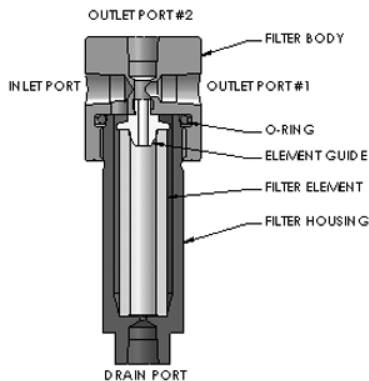

Figure 2
3. Orientation; The Type 30/30A/30S/ Mooney® Filter should be installed with the Drain Plug down to allow drainage of liquids that may accumulate in the Filter Housing (Refer to Figure 2, page 2).